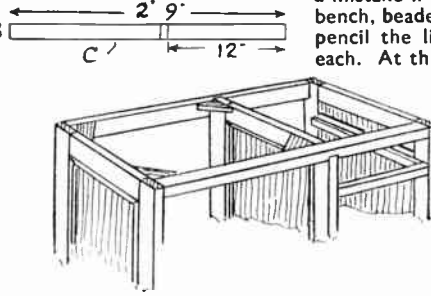

Fig. 3—Joining the three frames
Now cut these bars to the length given at (C) in Fig. 3. In each cut out a groove, where shown, $\frac{3}{8}$ in. deep and $\frac{3}{4}$ in. wide. The bars are now fitted across, being nailed to all three frames where shown in Fig. 3. The third bar, fitted across the rear of the desk, lower down, is not seen in Fig. 3, but can be clearly observed in the view given of the completed desk. At the corners of the knee-hole space, between pedestal, and left end, screw corner blocks, as shown in the drawing, to bring the whole structure square. It is, perhaps, unnecessary to mention that if the blocks are to fulfil their purpose, they themselves must be sawn to correct right angles. Cut them about 3 ins. each way from spare bits of the $\frac{3}{4}$ in. board, and screw and glue securely in the corners.